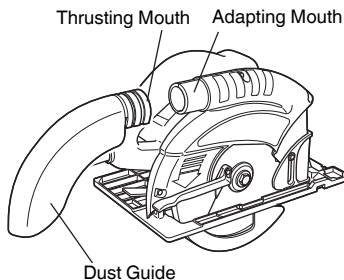

Fig. 11
(1) Insert the dust guide's thrusting mouth into the adapting mouth of the body. (Fig. 11)